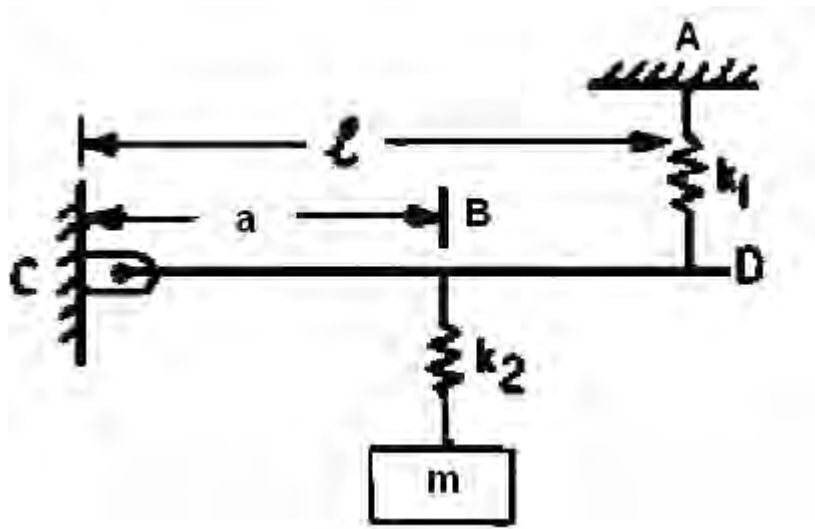

Figure 4:
4. Determine the natural frequency of oscillation of the system shown in figure 4 when the massless rigid bar is hinged at C. [16]